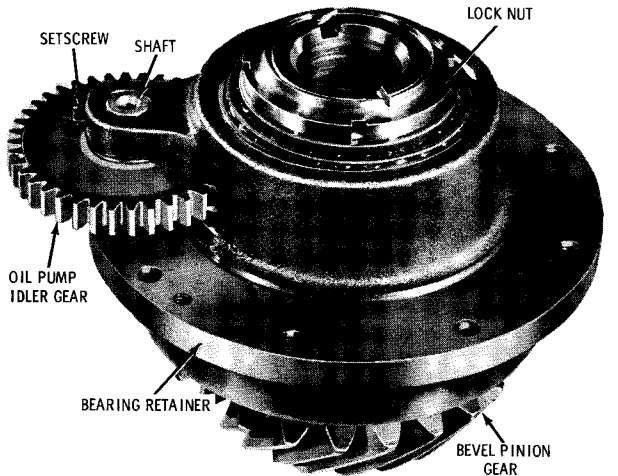

Fig. 6-13. Bevel pinion gear, bearing retainer and oil pump idler gear, assembled (VH, VSI series)
(8) Position the oil pump idler gear in the bearing retainer, install the shaft, set-screw and locknut (fig. 6-13).